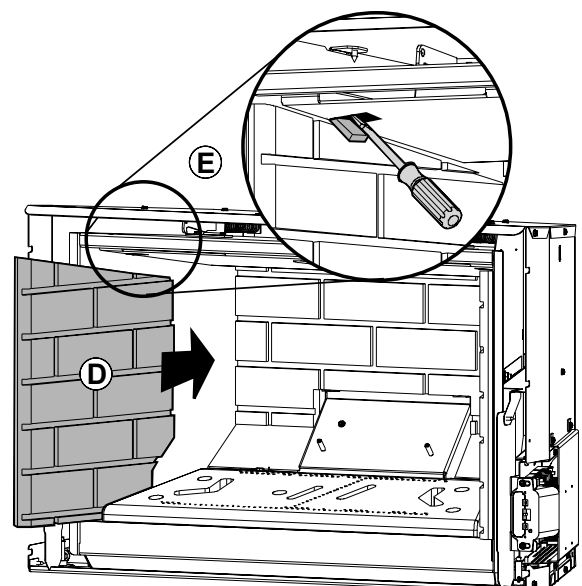

Figure 23. Side panel installation.
Slide each Side Panel (D) into position flat against the firebox side, resting the bottom edge on the support shelf. Fig. 23.